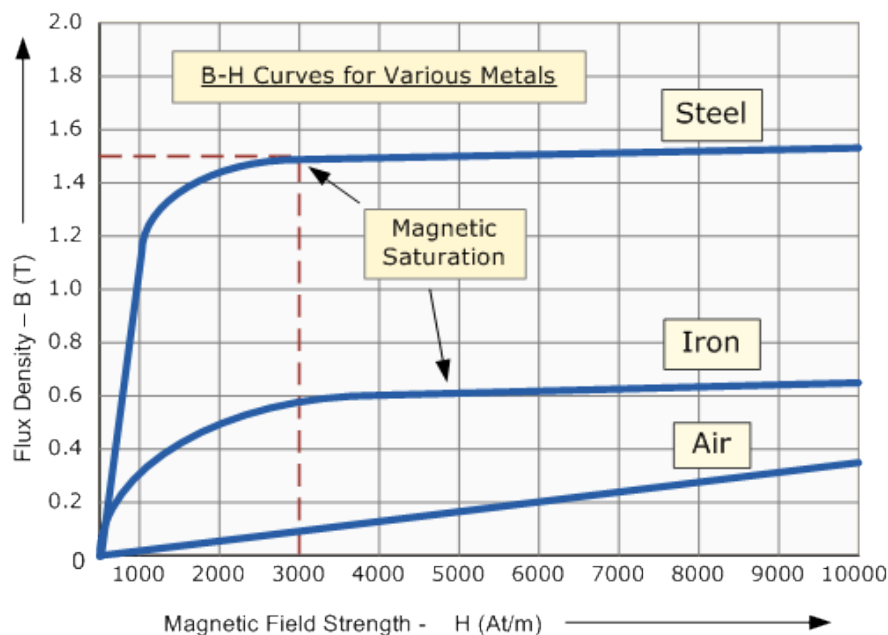
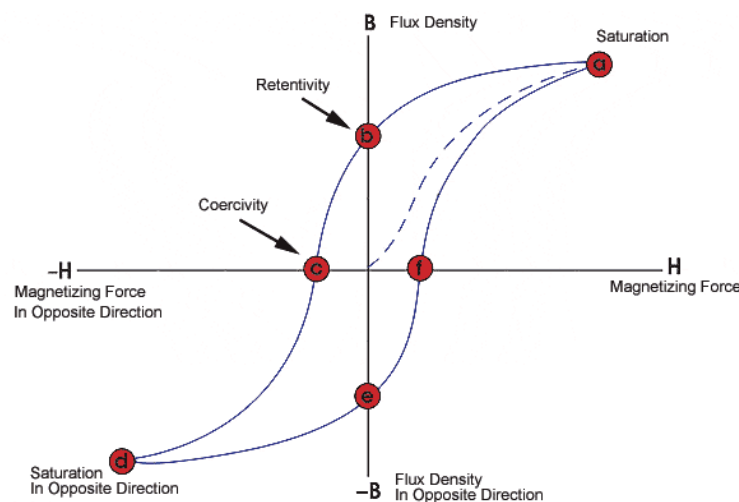

Figure 2.4:  $B$ - $H$  relationship for different materials
Figure 2.5: Hysteresis Loop
However, relative permeability is not constant and it changes as magnetic field strength increases and material becomes more and more magnetized.  $B$ - $H$  curves for different materials are shown in figure 2.4
Use figure 2.4 to calculate the relative permeability for iron at 5000 At/m.
When  $H$  increases due to flow of current in a magnetic or ferromagnetic material, magnetic poles start aligning and  $B$  increases. If current keeps on increasing, magnetic flux density saturates (all poles are aligned) as shown in *figure 2.4*. If the current that is producing the magnetic field is removed, one will assume that the curve will go back to origin and all the poles will be misaligned, leaving no magnetic flux in the material. However, this is not the case. Even when the current is removed and  $H$  goes down to zero, there is still some magnetism left in the magnetic material, as shown in *figure 2.5*.
As it can be seen from *figure 2.5*, point *a* is the saturation point when current is increased and in turn magnetic field strength is increased, when *H* goes to zero, *B* doesn't go down to zero, it goes to point *b*. This shows that there is still some *residual flux ( $B_r$ )* left in the magnet (this property, *retentivity*, is used in shunt generators and motors). To misalign all the magnetic poles and to make the magnet neutral again, current needs to be supplied in the opposite direction, which will change the direction of *H* and finally *B* will go down to zero at point *c*. The magnetizing force required to make the magnet neutral again is called *coercive force,  $H_c$* . If magnetic field strength keeps on increasing in the opposite direction, magnet will saturate in quadrant 3, as shown in the figure. Once again, when *H* goes to zero (current goes to zero), there is some residual flux left in magnet in the opposite direction (point *e*). To make the magnet neutral again, coercive force is required in the opposite direction, which is equal to the value of *H* at point *f*. If *H* keeps on increasing, magnet will again saturate and will go to point *a*, hence completing the loop. This loop is called *Hysteresis loop* and it is very commonly used to understand the magnetizing characteristics (retentivity, coercivity etc.) of a material. *Figure 2.6* shows the hysteresis loop in a bit more detail.
1.  $B$ - $H$  curves of steel, iron and air are given in *figure 2.4*. Find the value of relative permeability of steel and iron at  $H = 3000 \text{ At/m}$ .